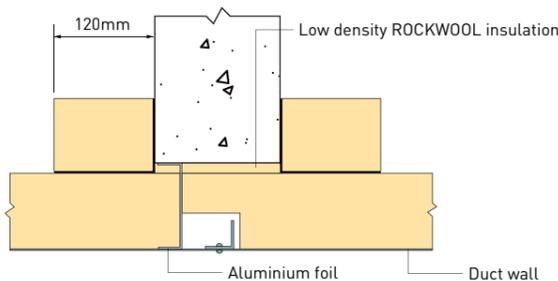

Figure 8
- A 30 x 30 x 2 mm mild steel angle frame fixed to the duct at the penetration mid point. Steel rivets should be used at 300 mm maximum centres (Figure 8),